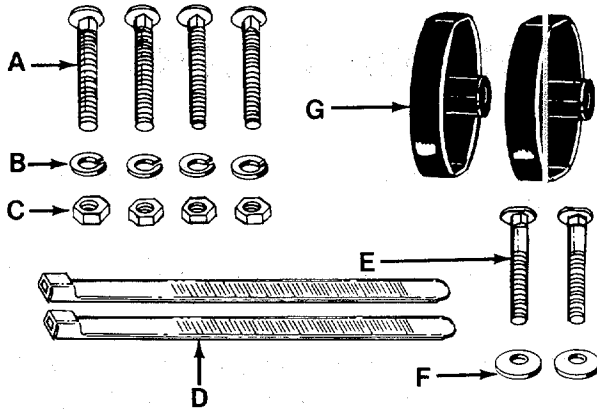

FIGURE 1.
**Contents of Hardware Pack (See Figure 1):**
- A (4) Carriage Bolts 5/16-18 x 1 1/2" Long
- B (4) Lock Washers 5/16" I.D.
- C (4) Hex Nuts 5/16-18 Thread
- D (2) Cable Ties
- E (2) Curved Head Bolts
- F (2) Belleville Washers 5/16" I.D.
- G (2) Hand Knobs
- H (1) Self-Tapping Screw (Not Shown)
- (1) Upper Handle—R.H.